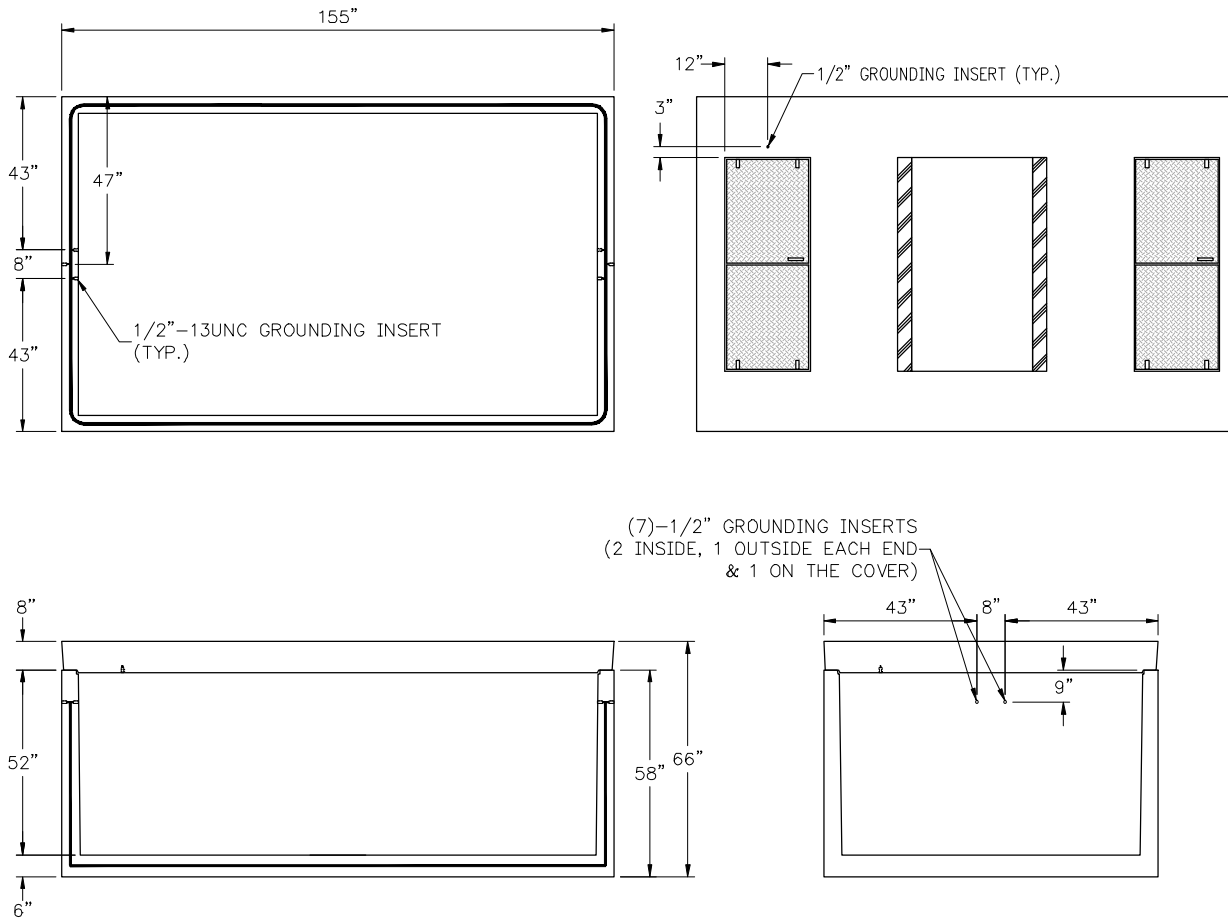

Figure 6—Grounding Grid for 7' x 12' (94" x 155") Padvault
All padvaults are based on two common vault bases and a lid that is designed to fit the specific equipment. Refer to Figure 6 for dimensions. Padvaults shall have personnel access provided by two access covers. Equipment openings in the padvault are sized for PacifiCorp's 600-amp deadfront switchgear. Padvaults shall have an internal grounding system with internal and external bushings for connecting ground conductors. Padvaults shall also have "TERM-A-DUCT" entrances to simplify conduit connections.
The padvault shall be built with an internal, encased electrode in the base of the padvault meeting NESC 094.B.6 and consisting of 3/8" steel rebar. The electrode in the base shall be encased horizontally and run continuously around the vault base. The grounding system shall attach to connection inserts made of high-bronze alloy and threaded to 0.5"-13UNC. Each end (short) wall shall have two (2) inserts inside and one (1) insert outside, as shown in Figure 6. One (1) additional grounding insert shall be located on the lid, close to the access door. All inserts shall have caps or plugs installed.